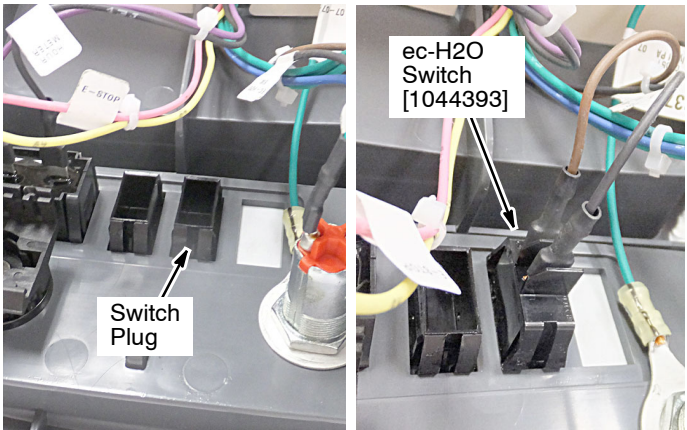

Fig. 31
3. Remove the switch plug from the console and install the ec-H2O switch in the orientation as shown. Connect the factory installed wires, black/2 and brown/13H, to switch as shown (Figure 31).